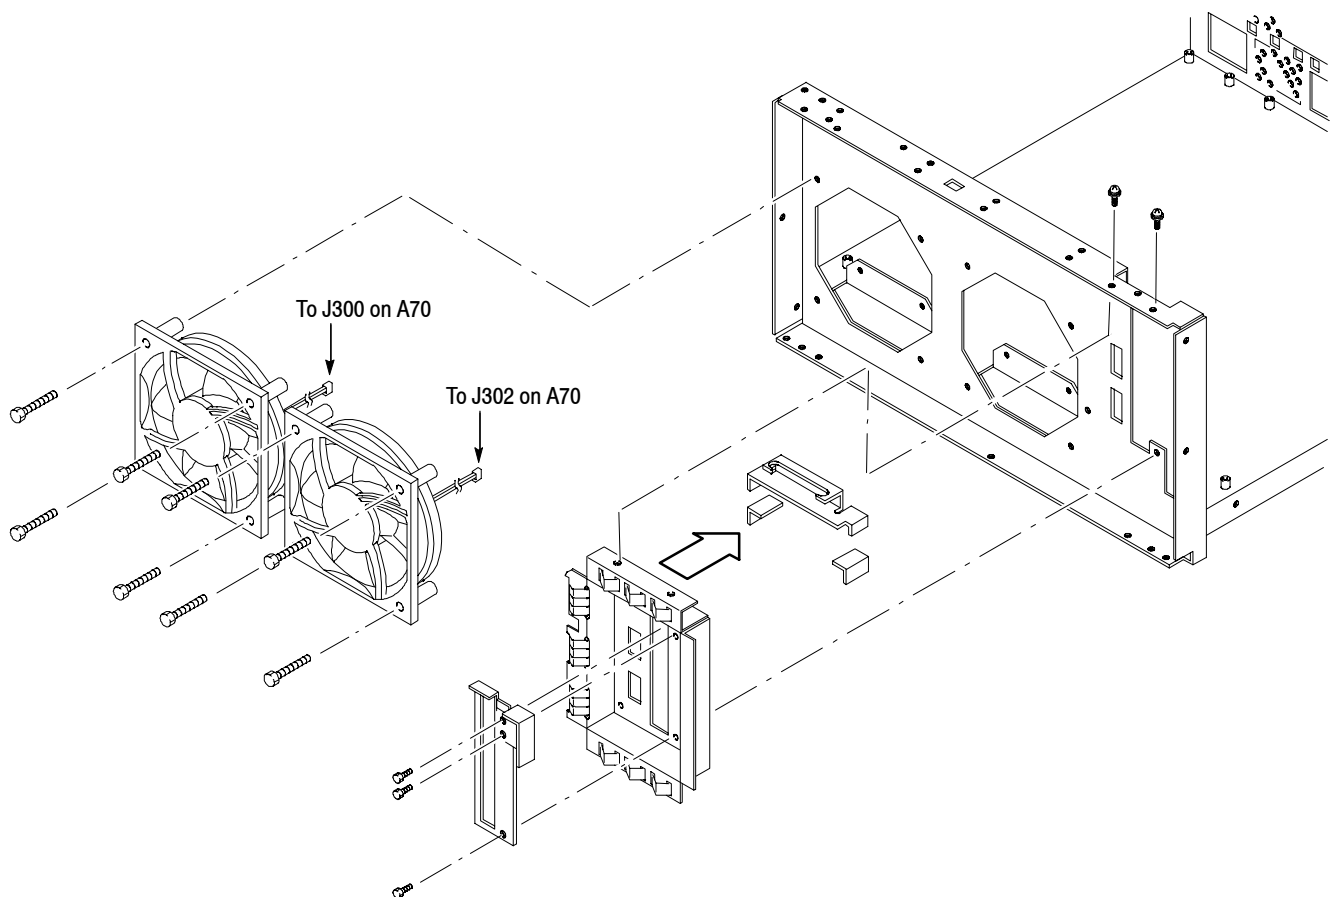

Figure 6-29: Fan and side panel removal
3. *Remove the fan:* See Figure 6-29.
4. *Remove the side panel assembly:* See Figure 6-29.